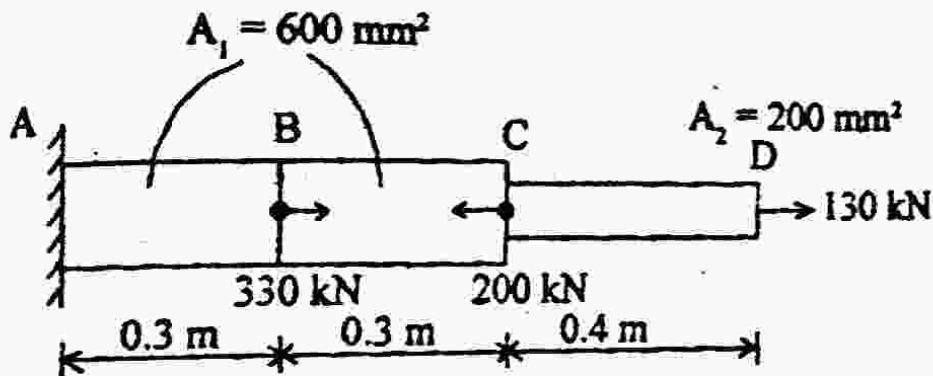

Fig. Q. 1(b)
1. (a) Draw stress-strain curve for mild steel in tension test and explain salient features of the curve. (7)
- (b) Determine the deformation of the steel rod as shown in Fig. Q. 1(b) under the given loads. Also find the stresses in different portions of the rod. Take $E = 200 \text{ GPa}$. (7)